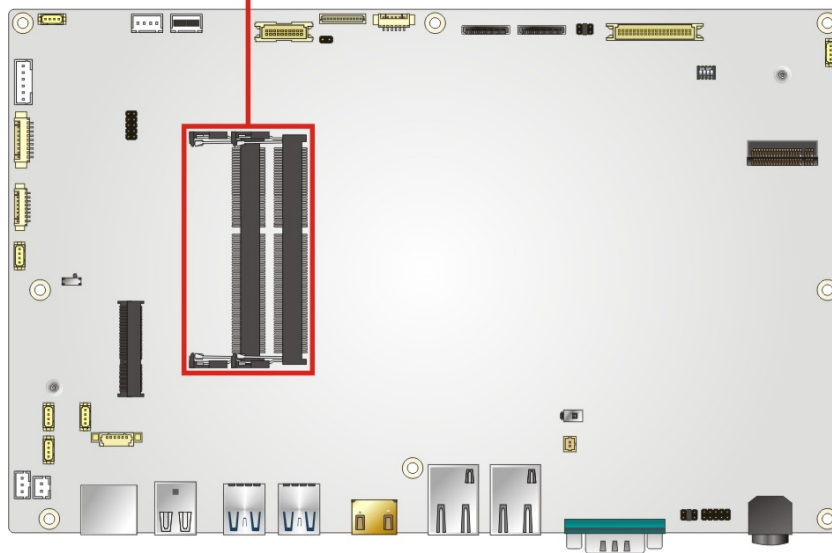

Figure 6-4: SO-DIMM Slot Locations
Step 2: Locate the SO-DIMM slots (**Figure 6-4**).